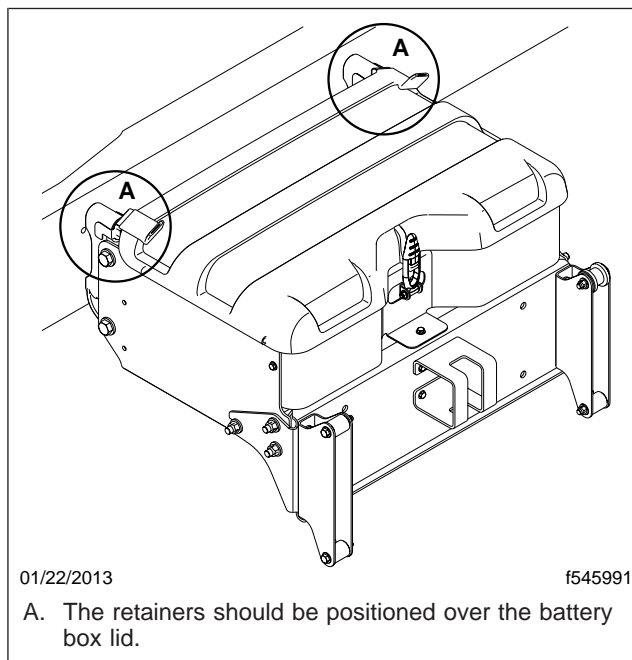

Fig. 3, Battery Box Retainer Installation
6. Install the batter box lid so it fits securely over the seals. See **Fig. 3**.